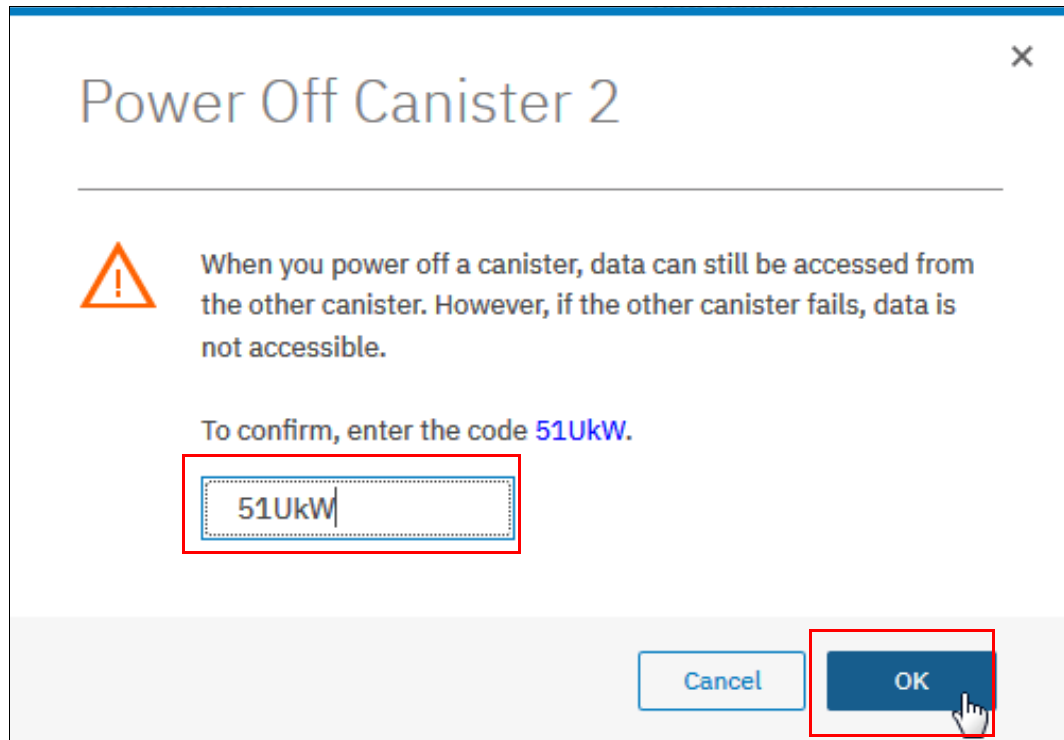

Figure 12-133 Canister power off confirmation window
3. Confirm that you want to power off the canister by entering the confirmation code and clicking **OK**, as shown in Figure 12-133.